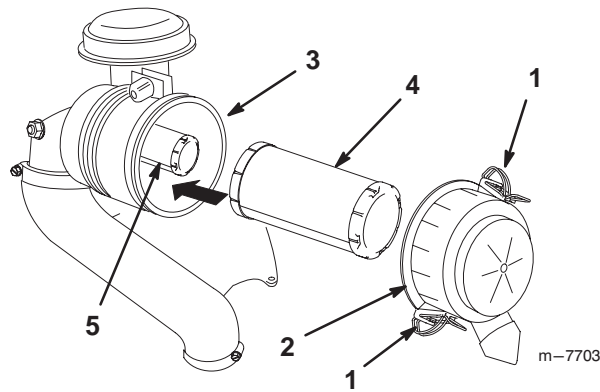

Figure 30
3. Release the latches on the air cleaner and pull the air cleaner cover off the air cleaner body (Fig. 30).
5. Gently slide the primary filter out of the air cleaner body (Fig. 30).
2. If the safety filter is being replaced, carefully slide it into the filter body (Fig. 30).
3. Carefully slide the primary filter over the safety filter (Fig. 30).
4. Install the air cleaner cover with the side indicated as **UP** facing upward and secure the latches (Fig. 30).